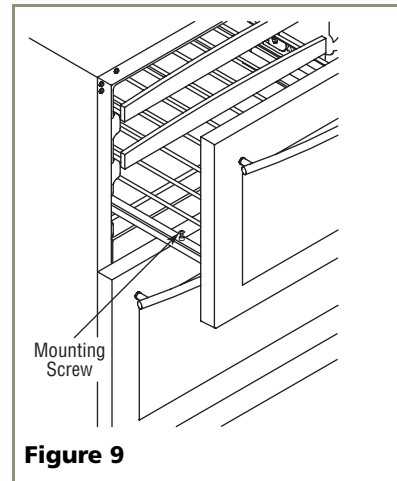

Figure 9
3. Remove the mounting screws (see **Figure 9**).